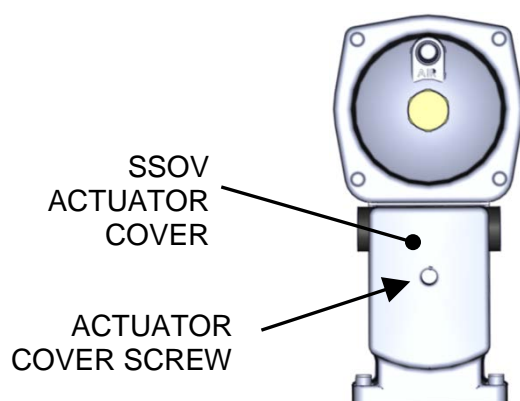

Figure 5-6. SSOV Actuator Cover Location
4. Remove the cover from the SSOV by loosening the cover screw, shown in Figure 5-6, then lift off the cover to access the terminal wiring connections.